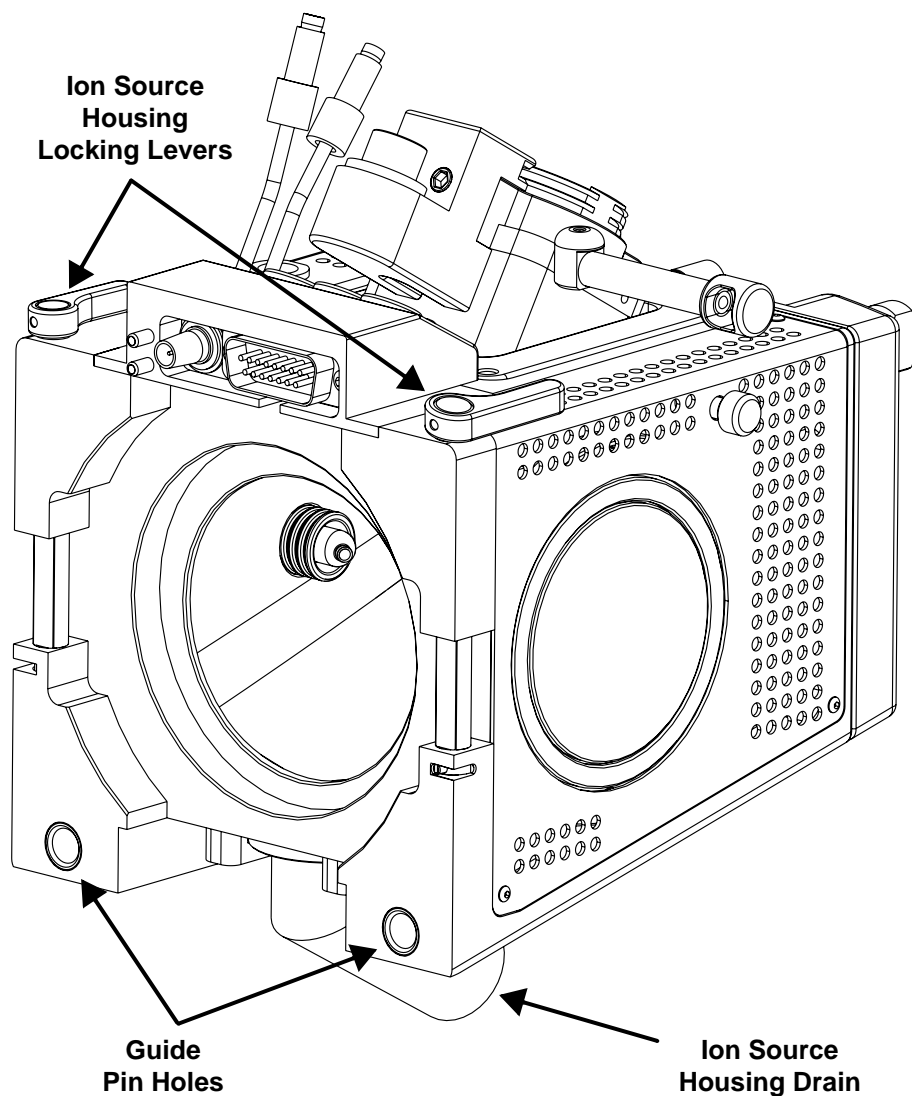
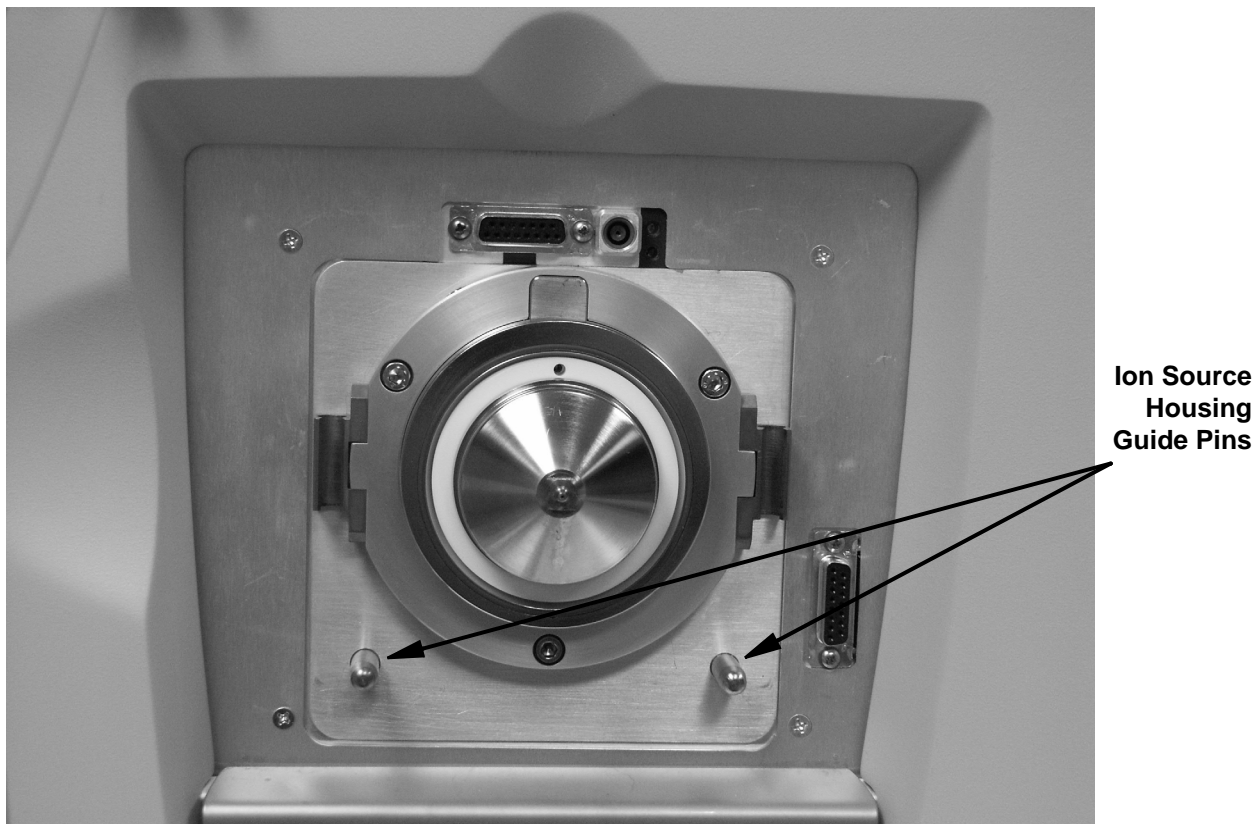

Figure 6-4. Rear view of the Ion Max ion source housing
Figure 6-5. Ion source mount showing ion source housing guide pins
1. Carefully align the two guide pin holes on the rear of the ion source housing with the ion source housing guide pins on the MS detector, and carefully press the ion source housing onto the ion source mount. See Figure 6-4 and Figure 6-5.